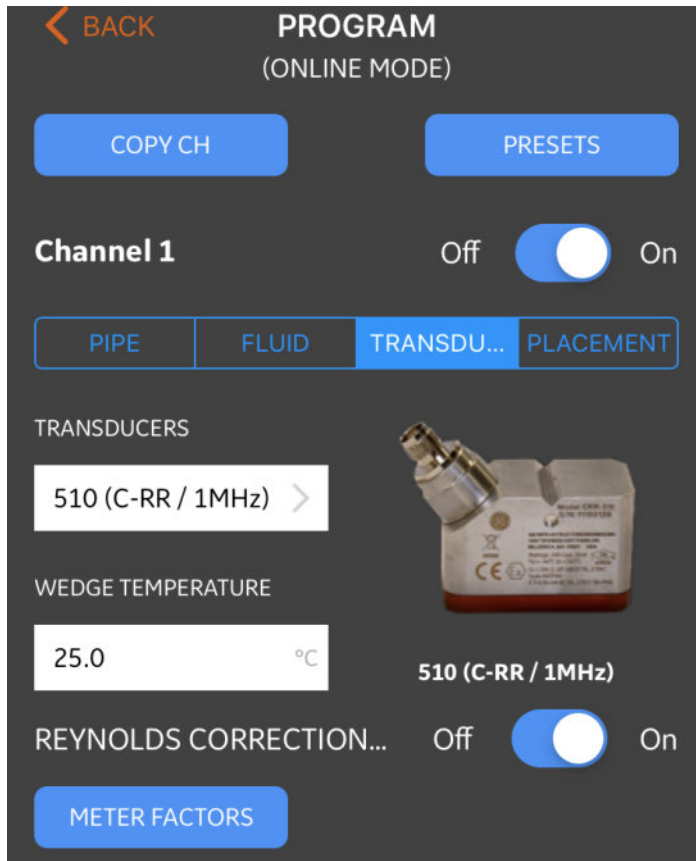

Figure 87: The TRANSDUCERS menu
An example of this menu is shown in *Figure 87* below. See the following sub-sections for the options available in programming the transducers.
To program your transducer parameters, refer to *Figure 87* on page 32 and complete the following steps:
- If you select standard transducer from the drop down, you will need to enter only the *wedge temperature* (see Figure 87). But if you select *other* as your transducer model, few additional parameters will appear on the screen (see Figure 88 on page 33 and you must edit this data with the correct specific information.
The *Reynolds correction factor* can be set to either *on* or *off* (see Figure 87 on page 32). This factor corrects the fluid velocity measured across a diametrical path so that it more accurately represents the average fluid velocity across the entire cross-sectional area of the pipe. The *Reynolds correction factor* should be turned *on* for all clamp-on measurements.
To program the *meter factor*, refer to Figure 87 on page 32 and complete the following steps: